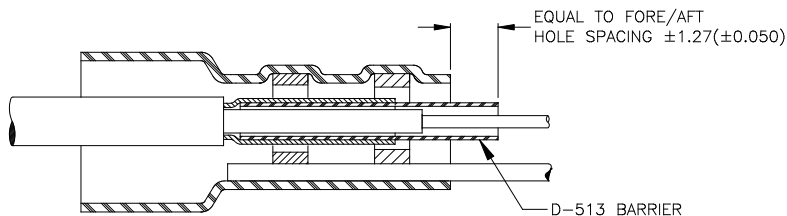

FIGURE 4
- Place D-134 sleeve onto assembly so that extension of Barrier from end of sleeve is equal to Fore/Aft Hole Spacing of Paddlecard [± 1.27 (± 0.050)], see Figure 4.